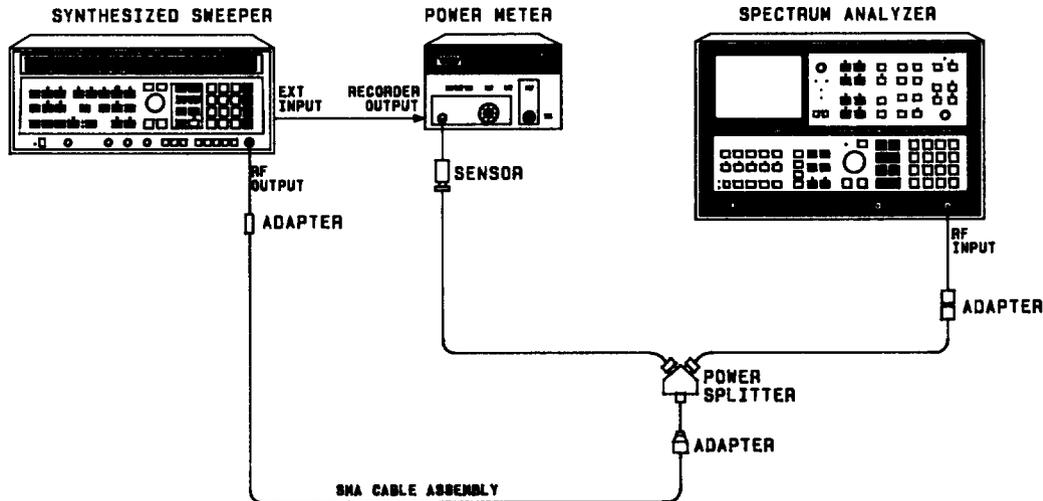

FIGURE 19. FREQUENCY RESPONSE TEST SETUP (60 MHz TO 2.5 GHz)
- 37. Connect equipment as shown in Figure 19. The RECORDER OUTPUT on the rear panel of the power meter is connected to the LEVELING EXT INPUT of the synthesized sweeper. One output arm of the power splitter is connected directly to the RF INPUT of the analyzer via the Type N to N adapter. The power sensor connects directly to the other splitter output.